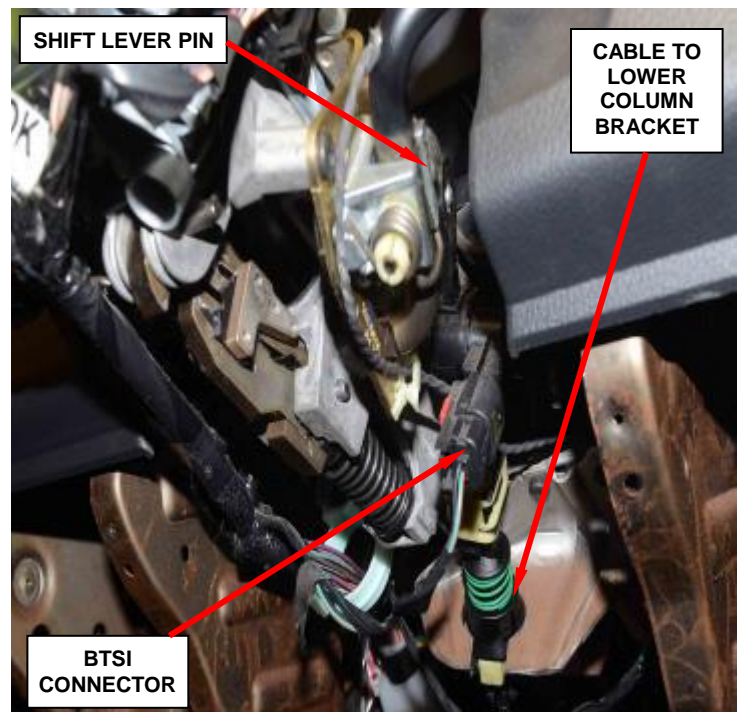

Figure 54 – Gear Shift Cable
13. Disconnect the gearshift cable from the column (Figure 54).